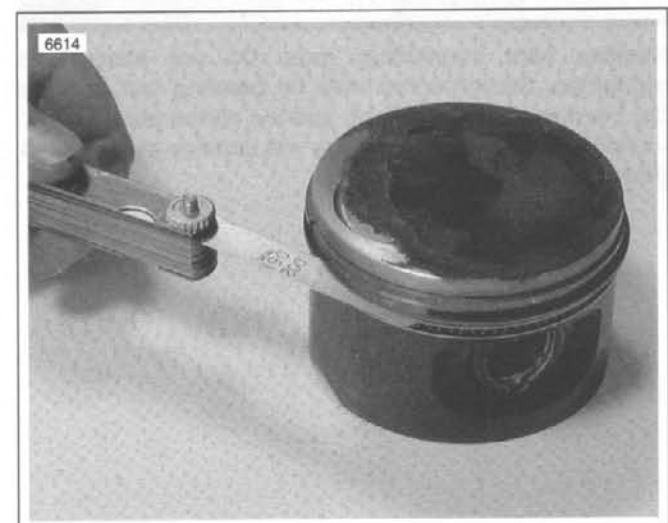

Figure 3-39. Measuring Ring Clearance in Groove
4. See Figure 3-39. Check for proper side clearance with thickness gauge, as shown. See 3.1 SPECIFICATIONS for tolerance.